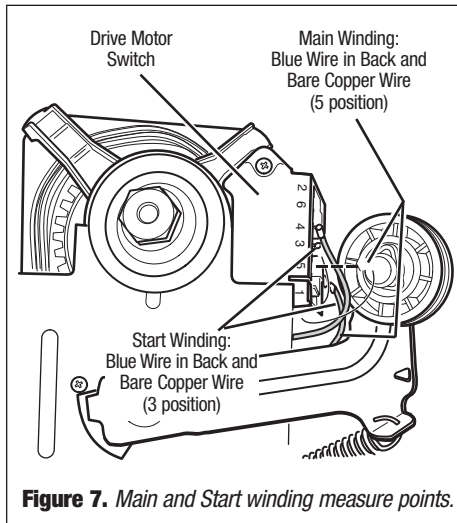

Figure 7. Main and Start winding measure points.
7. Remove the bare copper wire terminal from pin 5 of black drive motor switch. See figure 7.
8. Using Figure 7, check for the resistance values of the motor's Main and Start winding coils as shown in the following table.